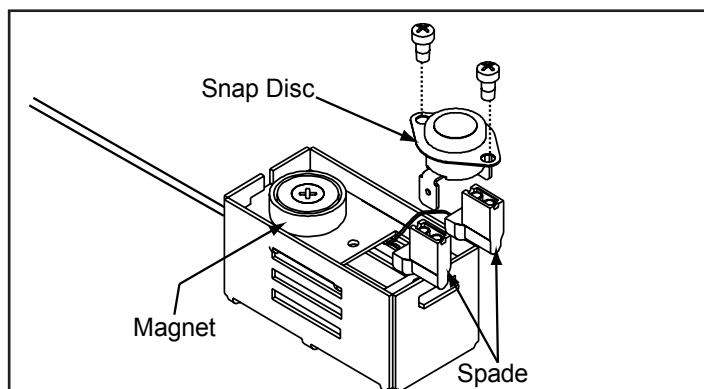

Figure 18.1
4. Pull the snap disc and spade connectors up and out of bracket as shown in **Figure 18.1**